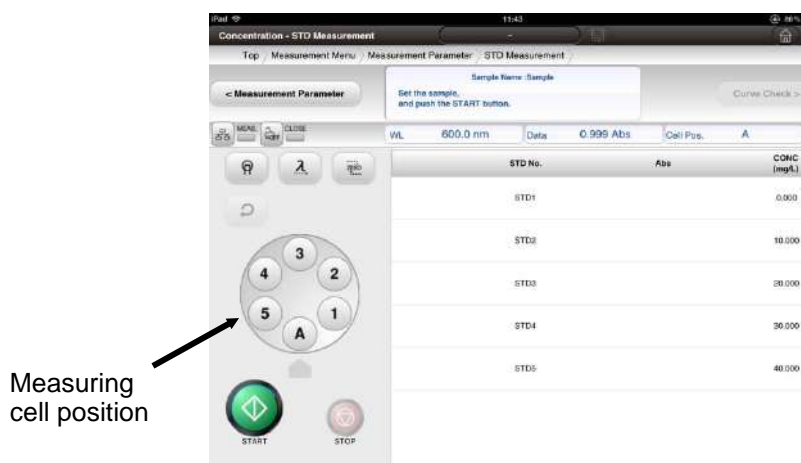

Fig. 4-91 Standard Measurement Window
- (3) The standard measurement window (Fig. 4-91) will be shown. Put a standard at the measurement cell position shown on the window. When you want to measure at a different cell position, rotate the turret on the window with your finger and move the cell position.